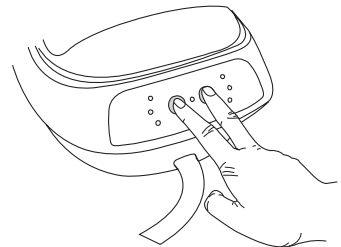

Fig.12
3. After power up, press steam selection switch and Power ON/OFF concurrently (Fig.12), filter replacement indicator light will stop blinking and return to checking mode.